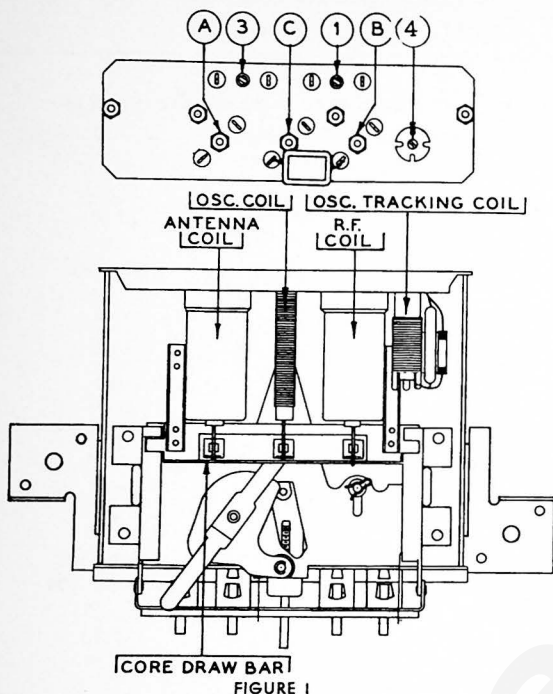

FIGURE 1
- (b) Turn the tuning control knob clockwise as far as it will go so that the cores will be in the extreme "out" position. Set the signal generator to 1600 K.C. and adjust padder (3) (Fig. 1) for maximum signal.
- (c) Adjust padder (2) aerial compensator in radio and padder (1) (see Fig. 1) for maximum signal.
- (d) Set the signal generator at 1400 K.C. and tune the manual control to 1400 K.C. Adjust the R.F. and antenna coil for maximum signal by turning the mounting nuts (A) and (B).
- (f) Set the signal generator at 600 K.C. and the tuning control at 600 K.C. Adjust the screw (4) (see Fig. 1) for maximum signal. Rock the tuning control when making this adjustment. Tune the control to the signal and adjust the screw for maximum output. Rotate the tuning control back and forth slightly until maximum output is obtained. Then re-adjust the screw until no further improvement is noticed.
- (b) Set up the signal generator to 1600 K.C. and adjust padder (1) (see Fig. 1) for maximum signal.
- (c) Adjust the signal generator to 1400 K.C. and set the tuning control at 1400 K.C. Adjust the coil form by turning the mounting nut (B) until maximum signal is obtained. In case a peak cannot be obtained it may be necessary to unsolder the piano wire and move the core slightly, either in or out.
- (a) Set the signal generator to 600 K.C. and the tuning control at 600 K.C. Adjust screw (4) (see Fig. 1) for maximum signal. Rock the tuning control while making this adjustment. Tune the control to the signal and adjust the screw for maximum output. Rotate the tuning control back and forth slightly until maximum output is obtained. Then re-adjust the screw until no further improvement is noticed.
- (b) Check and readjust the aerial compensator (2) in the radio, and padders (1), (2) and (4) as described in 1.
- (b) Set up the signal generator to 1600 K.C. and adjust padder (3) (see Fig. 1) for maximum signal.